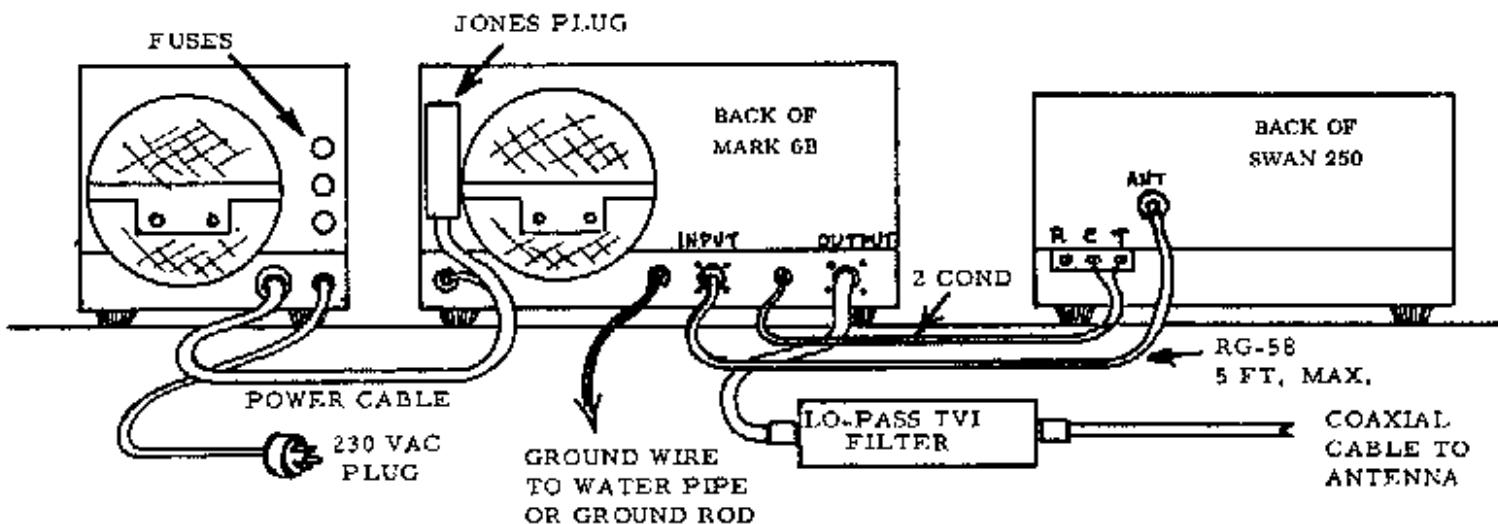

FIG. 1 INSTALLATION, REAR VIEW
- (c) Refer to the pictorial in Fig. 1 when making the installation. Connect a short length of coaxial cable (RG-58 or RG8) from the transceiver or exciter to the coaxial input jack on the Mark 6B. A PL-259 type connector is required at the amplifier end of the cable. This cable should be as short as practical and preferably not more than 5 feet long. NOTE: Swamping the exciter or driver power with an attenuator is not normally required with drivers up to 500 watt PEP input rating. After proper tuning procedures have been followed, the Mic. Gain control will be used to set the level of drive. If the driver is called on for less than its maximum power, distortion products will be less, and overall performance improved.